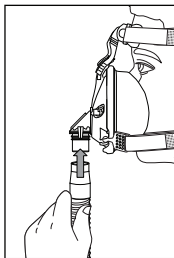

Figure 9
5. Connect the tubing (Figure 9) that is included with your CPAP or bi-level device to the swivel elbow on the mask.